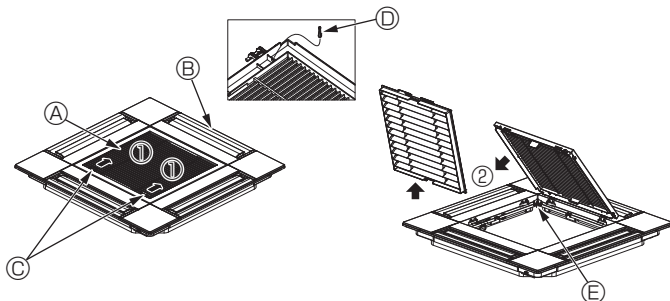
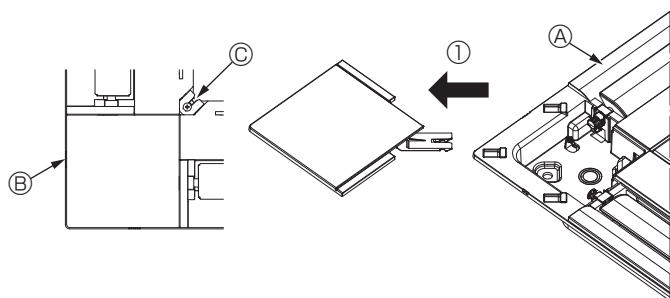

Fig. 6-3
Fig. 6-4
6.2.1. Removing the intake grille (Fig. 6-3)
- Slide the levers in the direction indicated by the arrow ① to open the intake grille.
- With the intake grille in the "open" position, remove the hinge of the intake grille from the grille as indicated by the arrow ②.
6.2.2. Removing the corner panel (Fig. 6-4)
- Remove the screw from the corner of the corner panel. Slide the corner panel as indicated by the arrow ① to remove the corner panel.